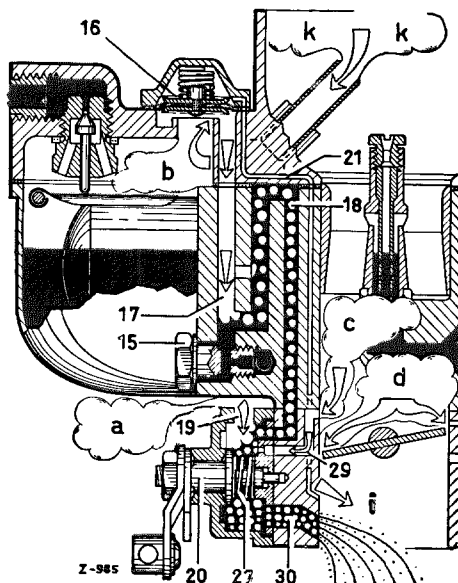

Fig. 07-0/14
As soon the engine has started, the 2nd phase of the cold start begins. The increase in engine speed brings about an effective partial vacuum beneath the throttle valves. This partial vacuum exerts a pull on the spring-loaded side of the diaphragm of the starter air valve (16) via the vacuum canal (21) (see Fig. 07-0/14).
As a result of the partial vacuum effect the starter air valve (16) opens and admits more air into the starter system from the float chamber via the air canal (17) and the fuel canal (18). This additional air immediately leans out the start mixture after the engine has started, thus ensuring the proper running conditions for the engine. Fig. 07-0/14 shows the mode of action of the starter mechanism after the engine has started.